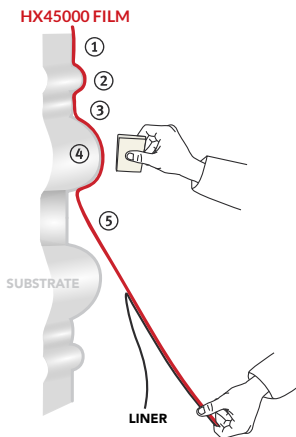

Figure 07
- › Gradually remove the liner while pulling it downwards. (FIG. 07)
- › Start applying the hollow ①, then the peak ② and finally the hollow ③.
- › Go up onto the next undulation ④, then keep going ⑤ until completion of the application.